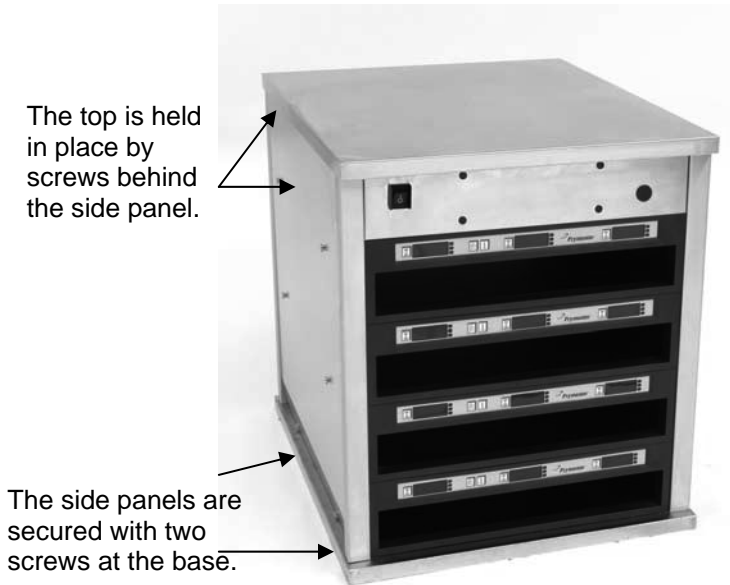

Figure 1: The side panels must be removed to access the component shelf.
1. The component shelf is accessed by removing two screws on each side of the unit. See **figure 1**.